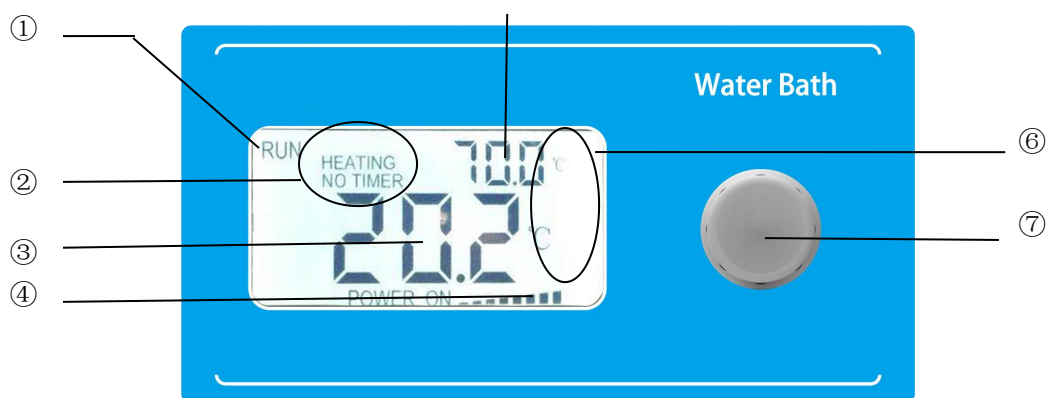

Figure 6
| (7) Water bath control panel (Figure 6) | (8) Condenser                     |